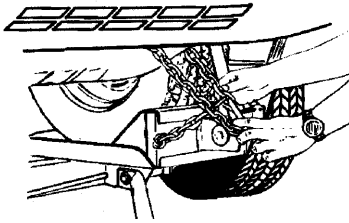

Fig. 11
- Connect the two (2) vehicle security chains, found next to the ratchet, to the vehicle-in-tow frame or other structural member. (Fig. 11) Keep the security chain away from brake and fuel lines and other items that may be damaged by the chain. **DO NOT** place the chain hook on the vehicle's frame member or other structural member. Loop the chain around the member and place the hook through the hole in one of the chain links. Leave several inches of slack in the security chain.